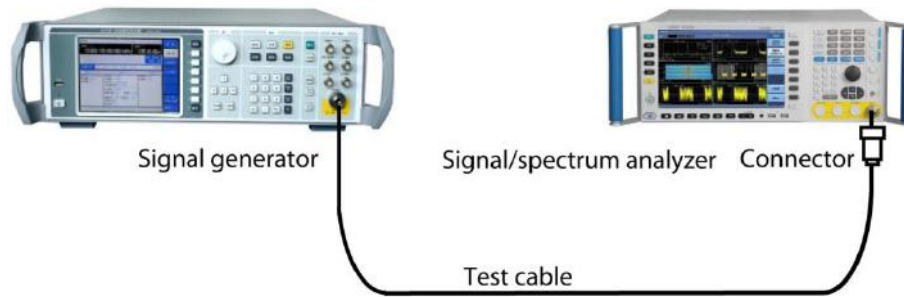

Fig. 4.74 Connection Settings of Burst Power Measurements
**Step 2. Connect the radio frequency output port of the signal source to that of the analyzer. As shown in Fig. 4.74:**